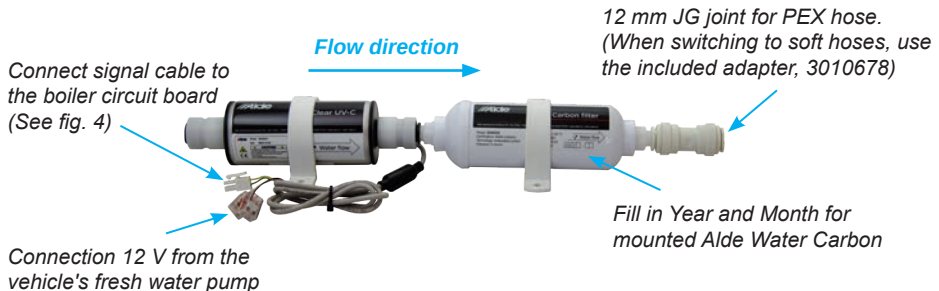

fig. 3
2. Assemble the Alde AquaClear UV-C (fig. 1, A) with the Alde Water Carbon filter (fig. 1, B). Please note that Alde Aqua Clear UV-C should be located before the Alde Water Carbon filter in the flow direction. (See fig. 3)